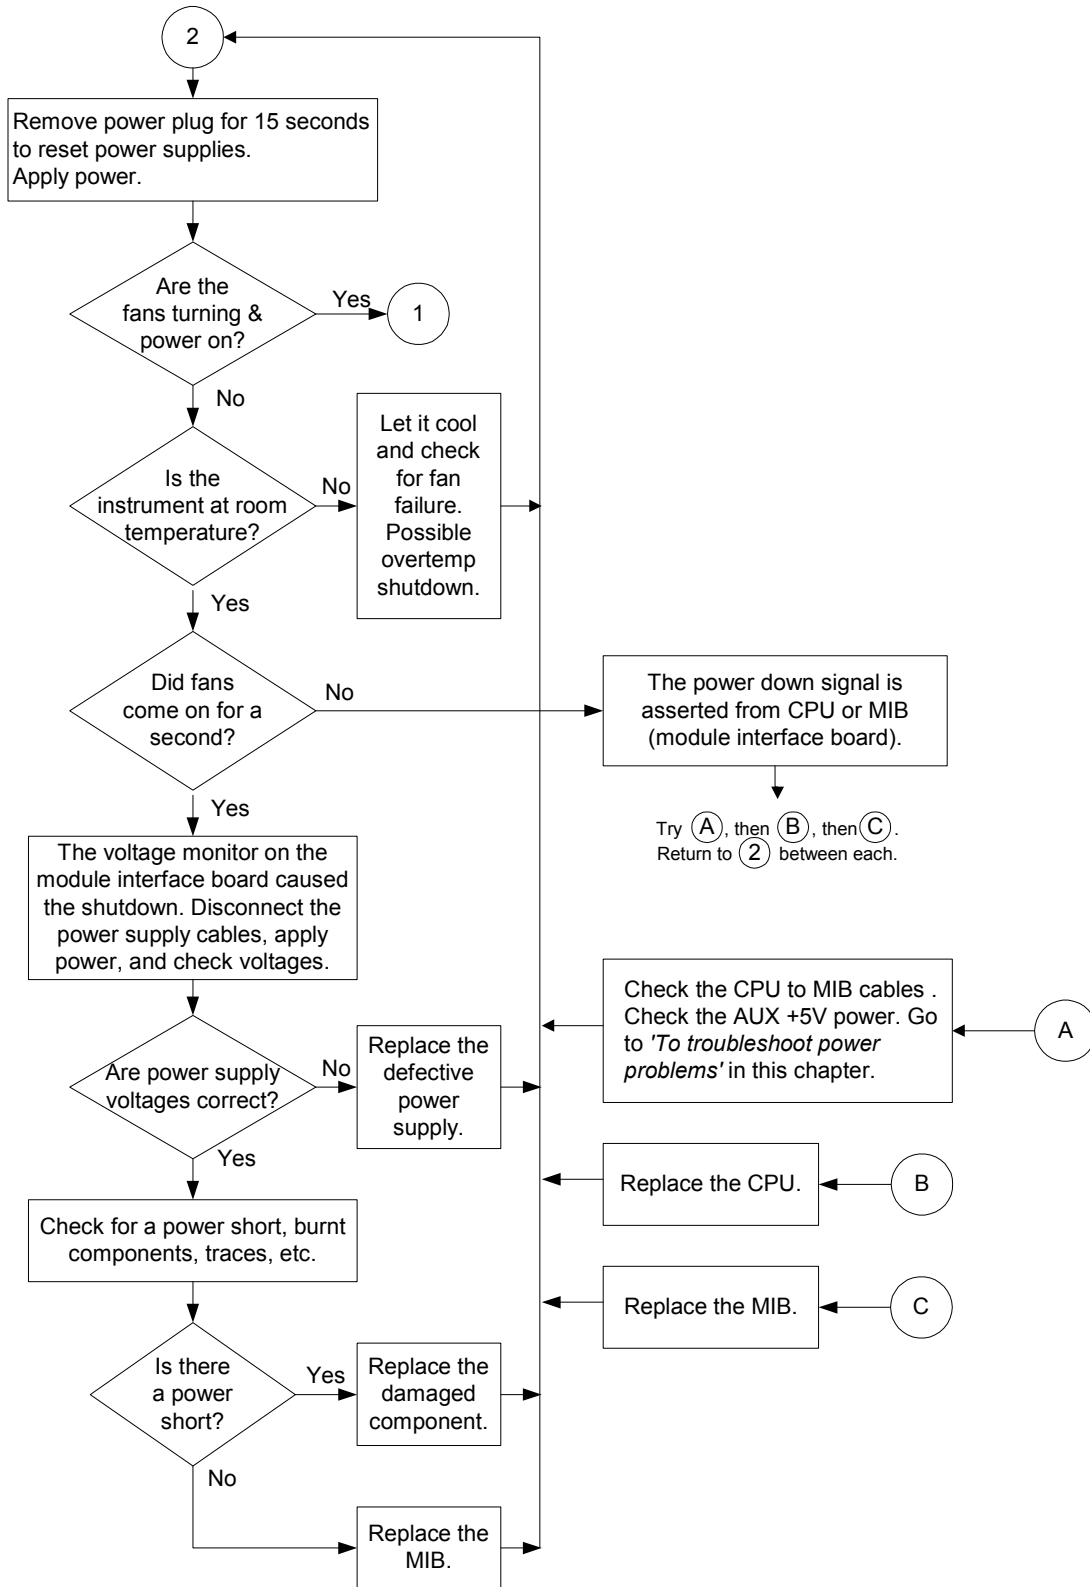

Figure 2 System Power Troubleshooting Flowchart
- 7 Referring to the graphics that follow, note problems with the power supply, then return to Figure 2, “System Power Troubleshooting Flowchart,” on page 74.